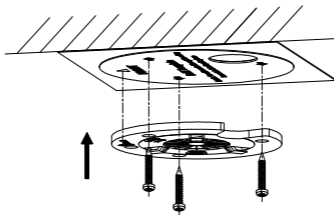
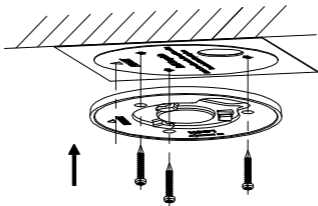

Figure 2-33 For Type II PTZ Camera
Figure 2-34 For Type II (IR) PTZ Camera
4. Attach the base plate to the ceiling and secure it with the supplied three self-tapping screws by aligning with three screw holes in the ceiling, and the front arrows on the drill template and base plate should be aligned together as well, as shown in Figure 2-33 and Figure 2-34.